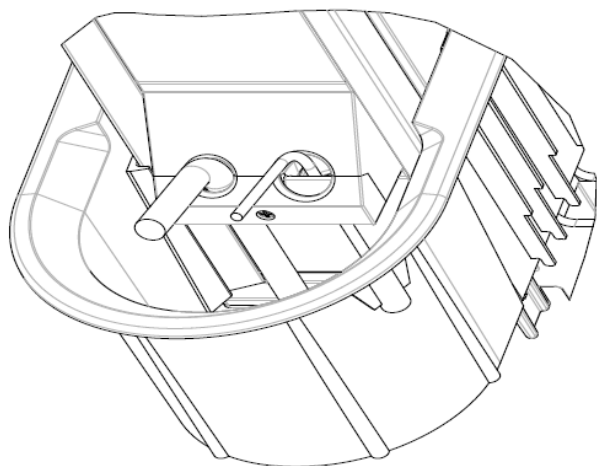

FIG. 5 Capture the Cables
5. Secure with the #2 Phillips screw (FIG. 5).